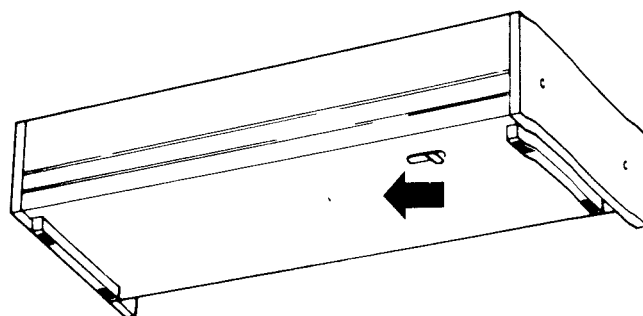

Fig. 2.1 Manual cassette release lever
1. Release the cassette compartment by pressing the EJECT button, or operate the manual cassette release lever as shown in fig. 2.1.